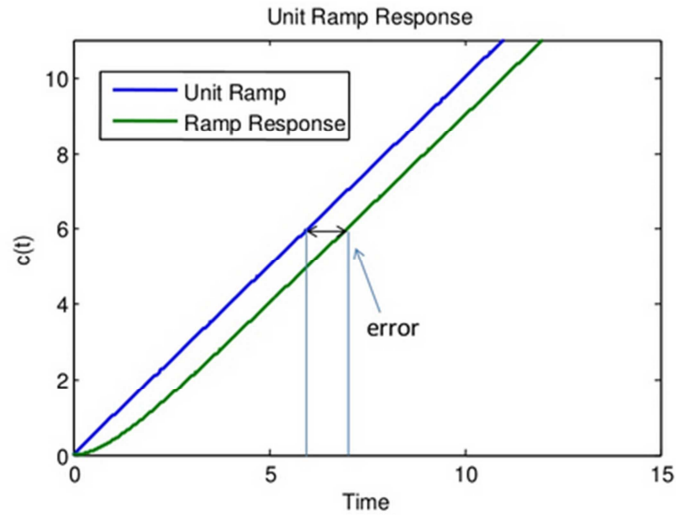

Figure 4: The ramp response for case 1, example 4
- 1) The ramp response of system, if $K = 1$ and $T = 1$ is shown in figure 4